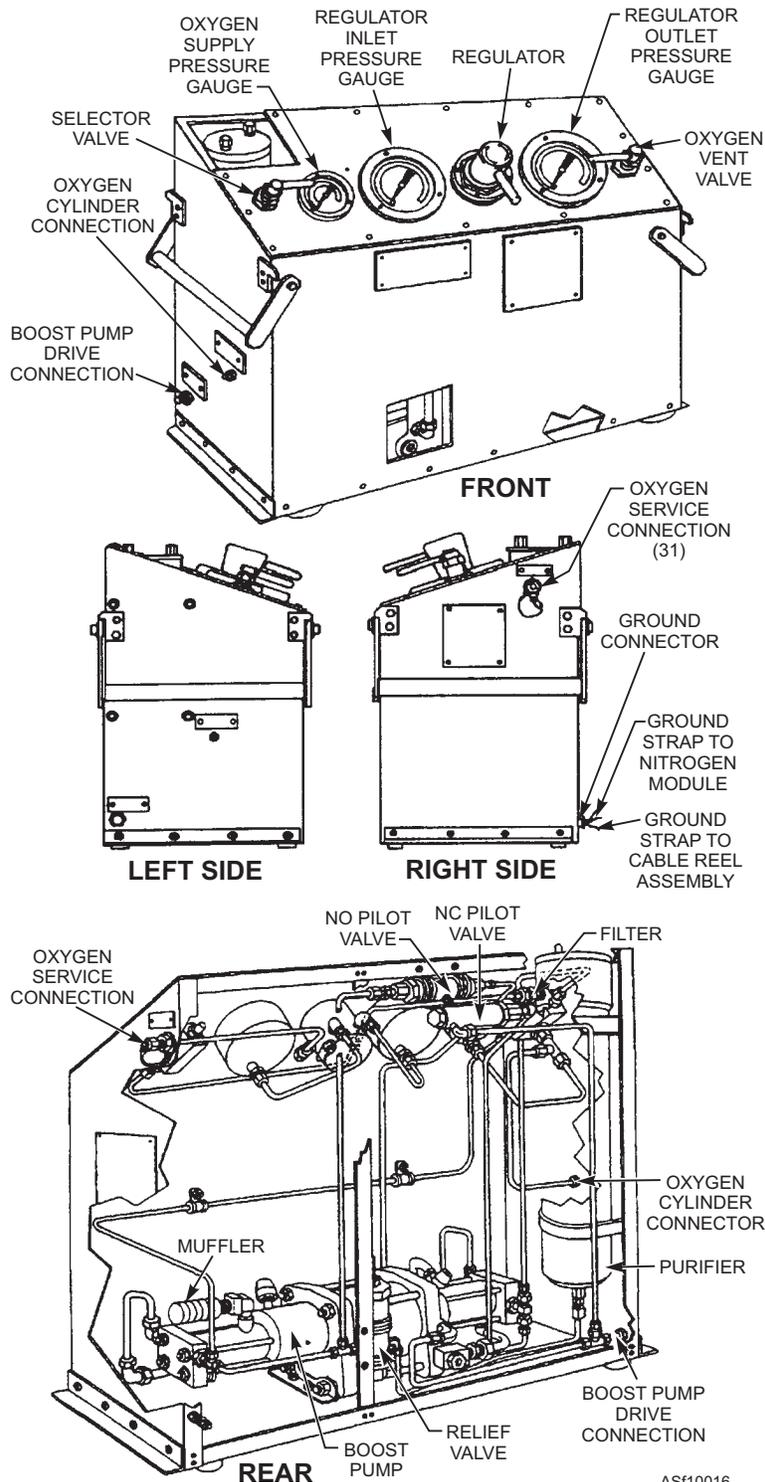
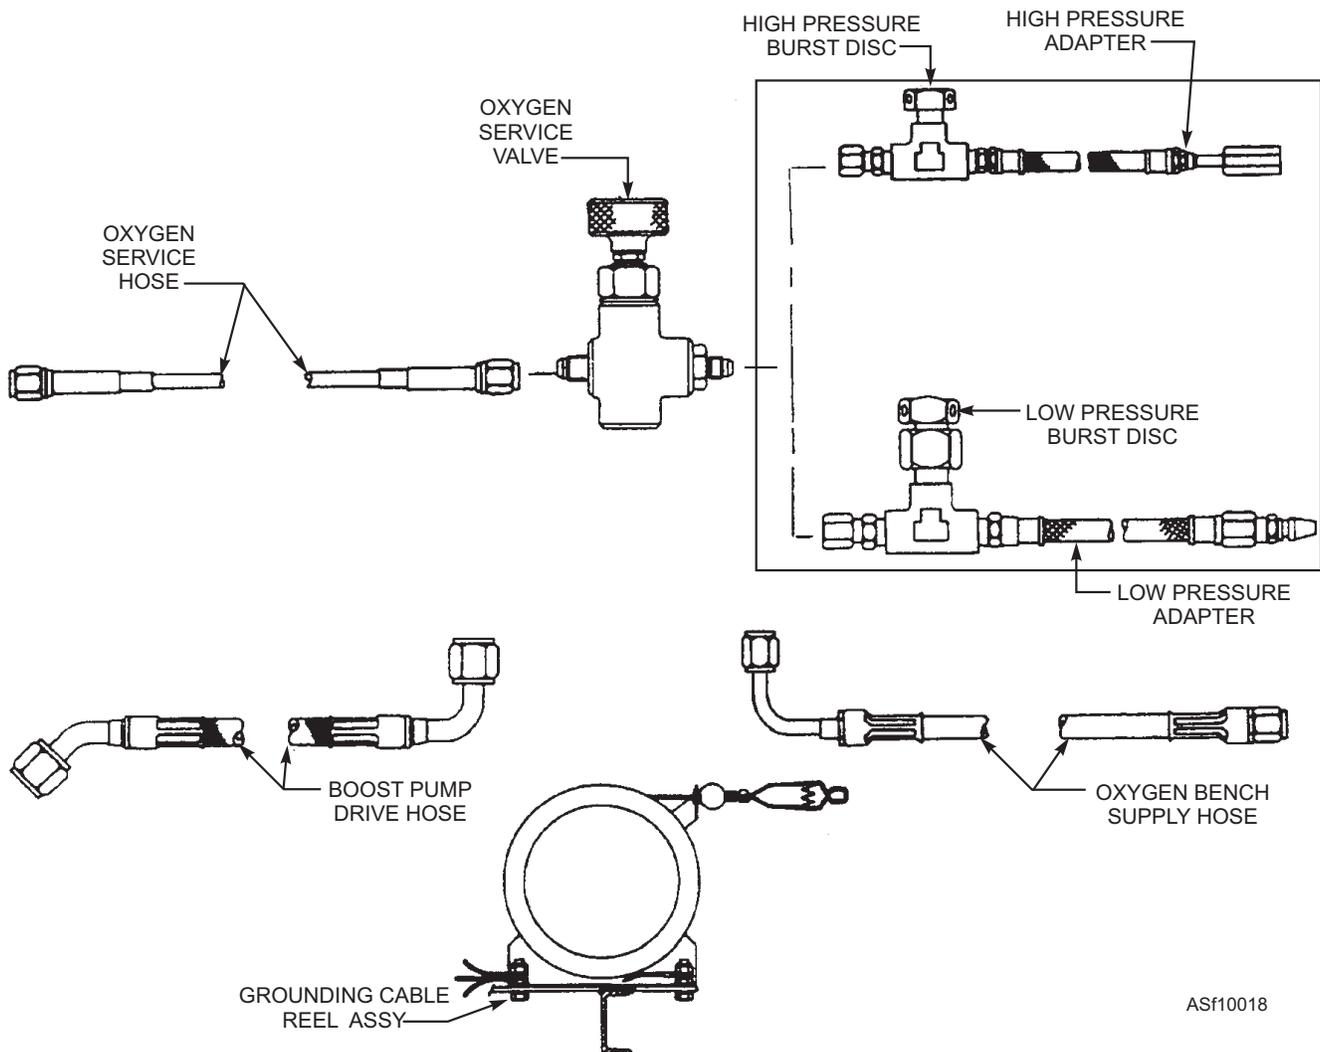

Figure 10-16.—Oxygen module.
Figure 10-18.—Oxygen/nitrogen servicing/interface equipment.
**OXYGEN MODULE.**—The oxygen module, figure 10-16, transfers the oxygen from the gas storage system by equalizing pressure or by boosting oxygen
cylinder pressure with the boost pump. During aircraft oxygen servicing, the oxygen module is grounded to the nitrogen module and trailer grounding reel. The following components are contained on or within the oxygen module (refer to figure 10-16 to locate the components on the module, and to figure 10-13 to trace oxygen flow):
**Oxygen Supply Pressure Gauge.**—The oxygen supply pressure gauge (19) indicates the amount of pressure in the oxygen cylinder (2). The gauge is located on the left corner of the oxygen module panel. (See figure 10-16, front view.) The oxygen cylinder valve (4) must be open to read cylinder pressure.
**Selector Valve.**—The selector valve (20) is a three-position (OFF/BOOST/BYPASS), hand-operated valve that controls oxygen flow to the boost pump (21), or it allows the oxygen to bypass the boost pump. It also provides a means of shutting off the oxygen supply to the servicing system. The selector valve is located on the left side of the oxygen module panel. (See figure 10-16, front view.)
**Boost Pump.**—The boost pump (21) increases (boosts) the pressure of the gas leaving the oxygen cylinder for high-pressure servicing operations. It has a compression ratio of 25:1 to 36:1, depending on oxygen cylinder pressure. The boost pump consists of
a large area reciprocating air drive piston directly coupled by a connecting rod to a small area gas piston. The gas piston operates in a high-pressure gas barrel section. Each gas barrel end cap contains high-pressure inlet and outlet check valves. (The boost pump serves the same purpose as the pump and motor assembly on the nitrogen servicing unit covered in chapter 9. The internal design and operation of the oxygen boost pump are quite similar to those of the nitrogen servicing unit's pump and motor assembly.) Figure 10-17 shows various features of the boost pump. The boost pump is physically located inside the oxygen module. (See figure 10-16, rear view.)
**Pilot Valves.**—Two boost pump pressure-operated pilot valves (23) and (24), are located within the oxygen module. (See figure 10-16, rear view.) The pressure operated pilot valve (23) is a normally closed (NC) oxygen module safety device, which prevents the boost pump (21) from operating with a high compression ratio (in excess of 25:1). When the gaseous oxygen supply to the boost pump (21) inlet port falls below 200 psi, the pilot valve (23) closes, shutting off the boost pump drive (nitrogen or compressed air). The pilot valve (23) opens when the oxygen supply pressure to the boost pump (20) exceeds 300 psi.
**Relief Valve.**—The relief valve (25) vents excess pressure if the boost pump (21) outlet pressure exceeds 2,900 psi. It is located inside the oxygen module. (See figure 10-16, rear view.)
**Purifier.**—The purifier (26), located inside the oxygen module (figure 10-16, rear view), removes moisture and other contaminant from the oxygen entering the servicing line. The purifier assembly is identical in appearance to the purifier used on the nitrogen servicing unit; however, it is not interchangeable. Always use only the item (part number) specified in the maintenance manual.
**Filter.**—The filter (27) traps foreign matter not removed by the purifier. It is a 10-micron, replaceable element filter located underneath the panel of the oxygen module. (See figure 10-16, rear view.)
**Oxygen Vent Valve.**—The oxygen vent valve (28) provides a means of venting gas pressure upstream of the regulator (30). It is a two-position (OFF/VENT) valve located on the upper right corner of the oxygen module control panel. (See figure 10-16, front view.)
**Regulator Inlet Pressure Gauge.**—The regulator inlet pressure gauge (29) displays the pressure at the inlet side of the oxygen regulator. It is located to the right of the oxygen supply pressure gauge on the oxygen module control panel. (See figure 10-16, front view.)
**Pressure Regulator.**—The pressure regulator (30) controls the pressure of the gas delivered to the servicing line. It is located to the right of the regulator inlet pressure gauge on the oxygen module control panel. (See figure 10-16, front view.)
**Regulator Outlet Pressure Gauge.**—The regulator outlet pressure gauge (31) displays the pressure at the outlet side of the oxygen regulator. It is located to the right of the pressure regulator on the oxygen module control panel. (See figure 10-16, front view.)
**Oxygen Service Connection.**—Located on the right side of the oxygen module, the oxygen service connection (32) provides a means of attaching a servicing hose to the servicing unit. (See figure 10-16, right side view.)
**SERVICING AND INTERFACE EQUIPMENT.**—The servicing and interface equipment consist of those parts required to connect the oxygen servicing unit to the aircraft oxygen storage system and includes the grounding cable reel assembly. The interface equipment consists of connecting hoses between the oxygen/nitrogen modules that convey air or nitrogen to drive the oxygen boost pump. The servicing and interface equipment include the following items: (See figure 10-18.)
4. Attach the servicing hose and valve with the appropriate servicing adapter (figure 10-18) to the oxygen service connection on the oxygen module. (See figure 10-16, right side view.)